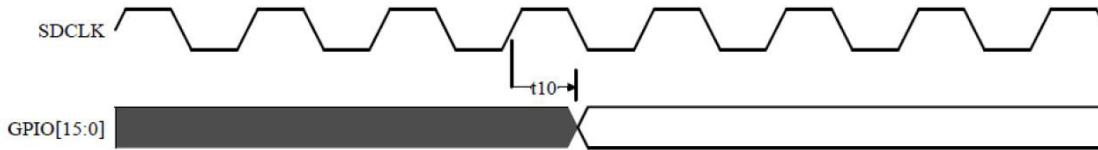

Figure 4:4: General Purpose I/O Timing Diagram
- All outputs are measured using the load conditions shown in Figure 4:14